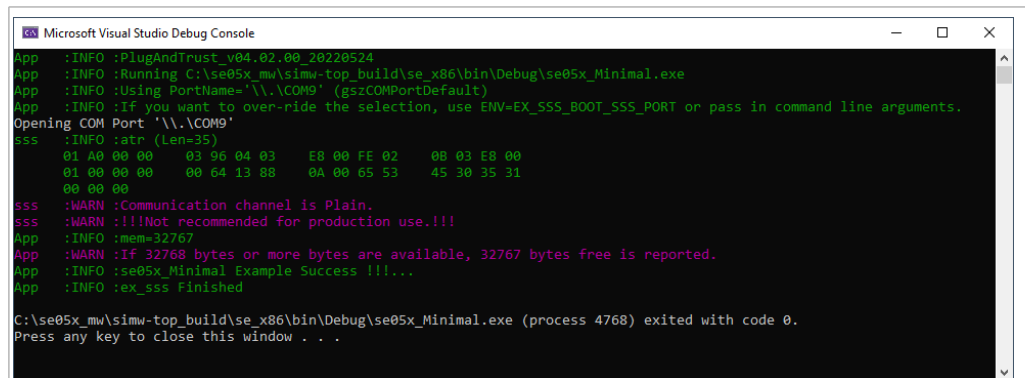

Figure 23. Verify that `se05x_minimal` project is running
- If the `se05x_minimal` project runs successfully, a Console window will be opened. The logs in this Console window indicate the available memory in EdgeLock SE05x security IC (in this case, 592) as can be seen in Figure 23: